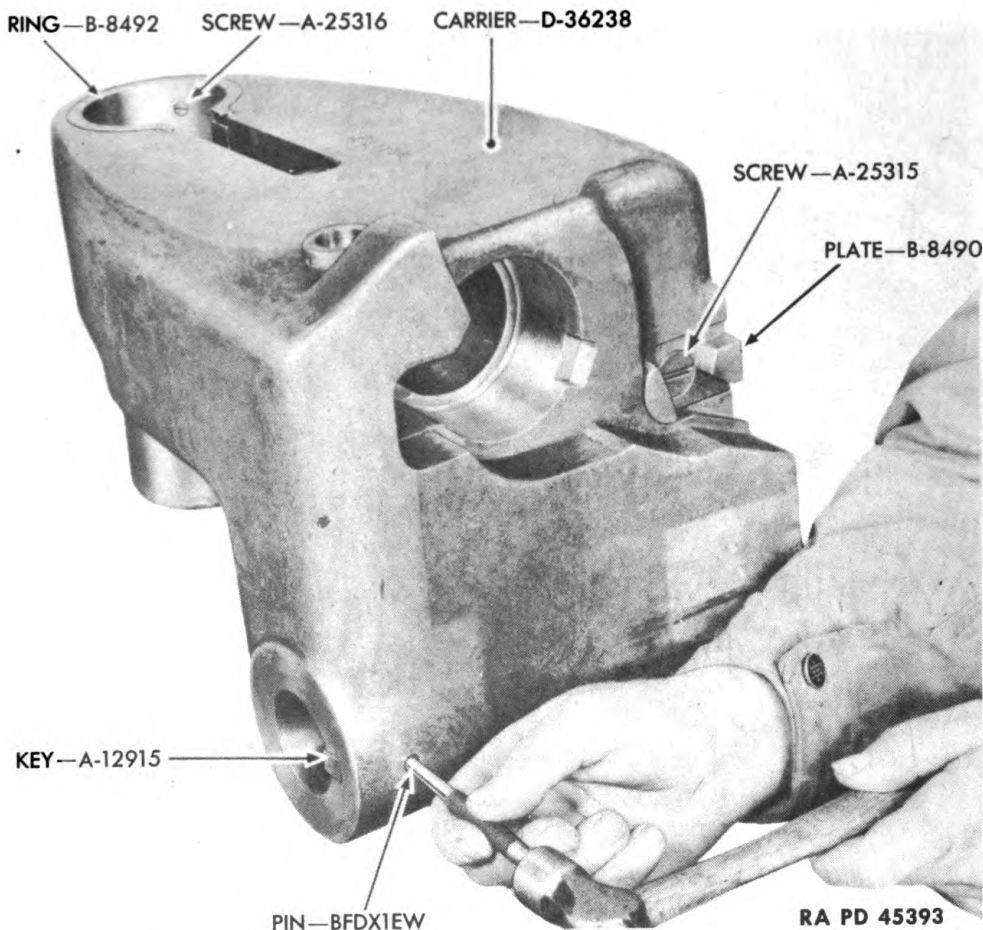

Figure 67—Removing Breechblock Carrier Key
g. Disassemble Carrier Assembly (fig. 67).
- (1) Remove key A12915 by driving out pin BFDX1EW.
- (2) Remove plate B8490 by removing screw A25315.
- (3) Remove ring B8492 by removing screws A25316.